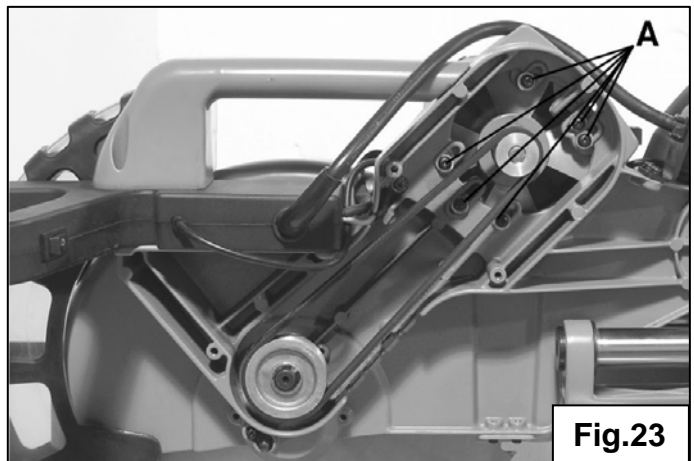
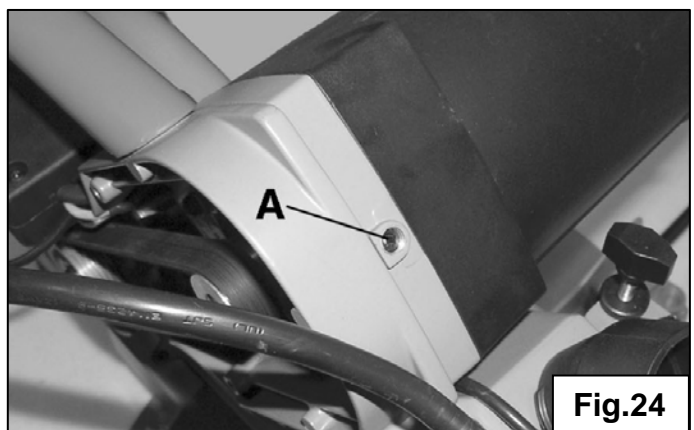

Fig.23
Fig.24
4. To loosen the belt, open the six screws **(A) Fig.23** inside the belt box and modify the position of the motor. Then open the warm-screw **(A) Fig.24** to loosen the belt tension.
7. screw up the warm-screw **(A) Fig.24**, setting the belt's tension so that, when you press the belt in the centre, a clearance of about 1,3 cm is left.
8. Once the belt is tensed, screw up the six screws **(A) Fig.23**.